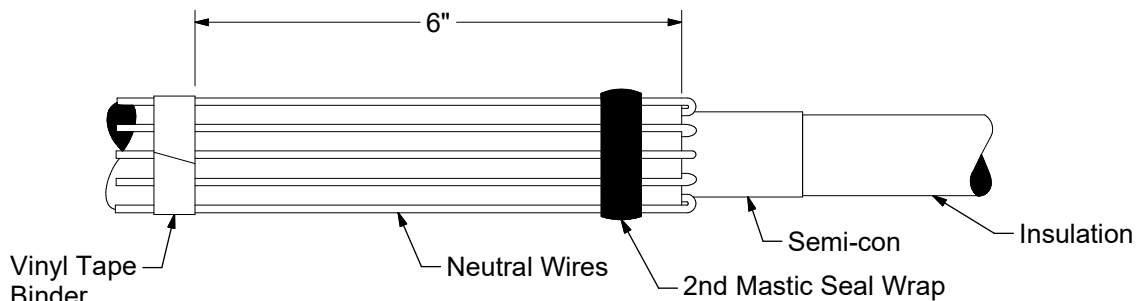

Figure 3
3. Bend neutral wires back over applied sealing mastic and secure to cable jacket with vinyl tape 6" below jacket cutback. (Figure 3)
4. Select the roll of 1" wide Scotch Sealing Mastic 2229 from the kit and cut a length of the mastic long enough to wrap around the cable jacket and neutral wires. Remove the release liner and, using a light tension, apply a single wrap of mastic around the cable jacket over the neutral wires and previously applied mastic. (Figure 3)